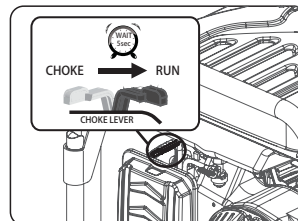

Fig 16
- Let engine run for several seconds and then gradually, as engine warms up, slide the choke lever towards the “RUN” position until the choke is fully slid to the “RUN” position. (See fig 16)